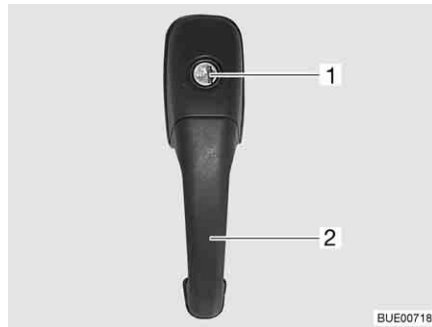

Fig. 25 Door lock of conversion door, outside
- Insert the key into locking cylinder (Fig. 25,1) and turn until the door lock is unlatched.
- Pull on the handle (Fig. 25,2). The door is open.
- Insert the key into locking cylinder (Fig. 25,1) and turn until the door lock is engaged.